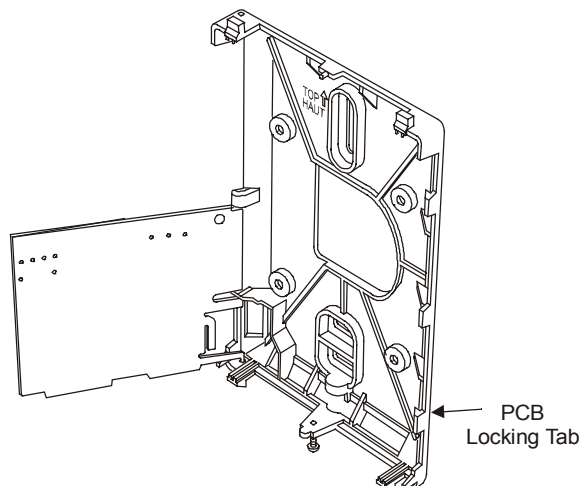

Figure 3: Opening the Sensor PCB
2. Unlock the Printed Circuit Board (PCB) by carefully pressing the locking tabs to the right. Open the sensor's PCB to the left (see Figure 3).